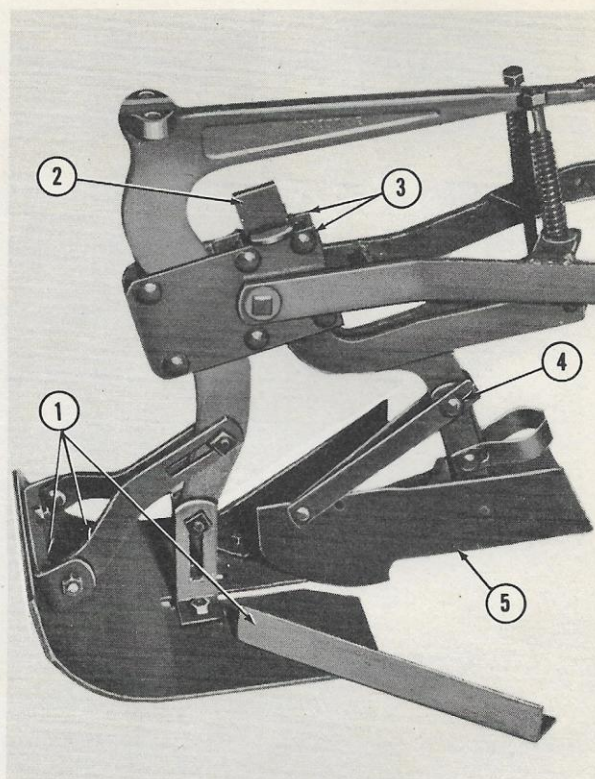

Figure 7
Kelly depth slide (1), Figure 7, for surface planting.